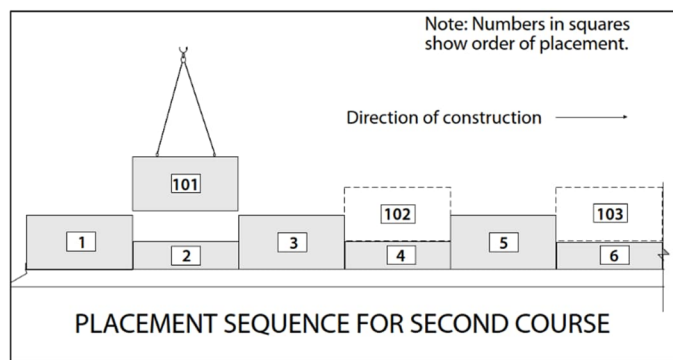

Figure 29: Placement sequence for second course.
Begin the second and subsequent courses of panels at the end of the wall where construction began (Figure 29).
STEP F-2: Remove the two shoulder clamps holding the full height panels (1) and (3) to the half panel (2). As each course proceeds, remove only two clamps at a time to allow for setting of each new panel. Clamps should not be removed prior to backfilling of the affected panels. To prevent concrete-to-concrete contact at horizontal joints, set four bearing pads onto the top edge of panel (2). Allow for $\frac{1}{4}$ " clearance between bearing pad and back panel lip. Refer to Figure 29.
STEP F-3: Set the full height panel (101) onto the half height panel (2) (Figure 29), centering the panel to ensure equal vertical joints and matching the panels front face to that of panel (2). Set the batter of the panel the same as the first course using wedges at the ear. Clamp the new full height panel (101) to the initial course panels (1) and (3). Don't over tighten the clamps as they may remove the batter set in the panel (101).